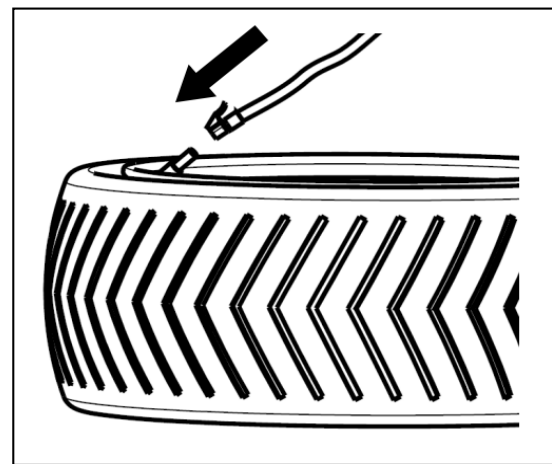

FIG22
- Connect the inflation hose with the tire air core. (FIG22)